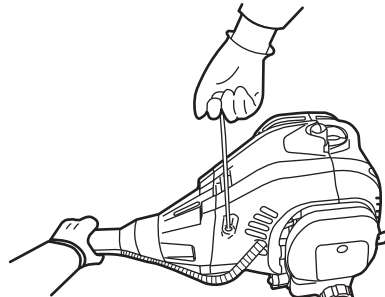

Fig. 20c
4. Hold the product stable and pull the recoil starter handle (A7) firmly; repeat until the engine starts. (See Fig. 20c) Allow the recoil starter rope to return slowly and controlled after each pull!